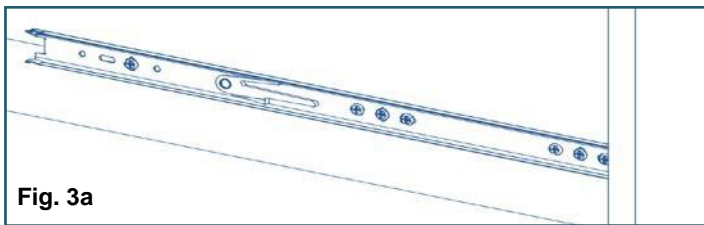
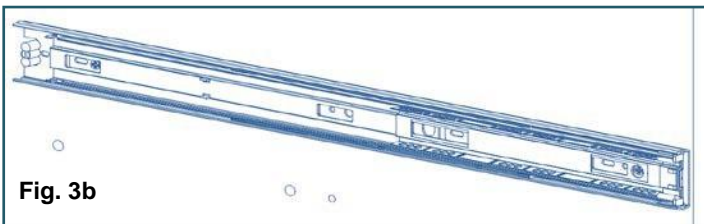

Fig. 3a
Fig. 3b
Locate the Glides as shown in Figure 3a above on the Drawer Assembly (Items 5, 6, 7, and 8). Locate the Glide-Insert as shown in Figure 3b inside the Pedestal Assembly (items 3 and 4 of the currently assembled product).